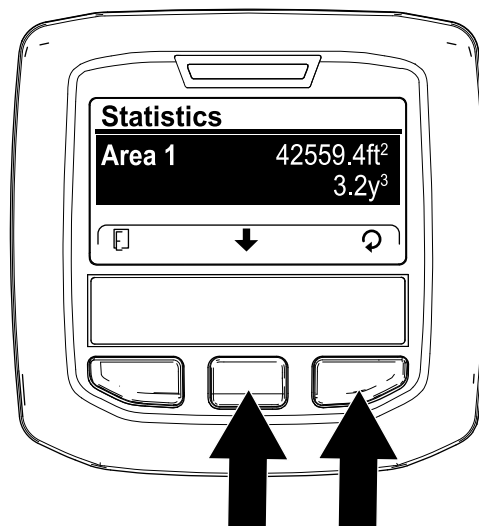

Figure 106
1. In the STATISTICS screen, press the center InfoCenter button until the AREA 1 option is selected (Figure 106).